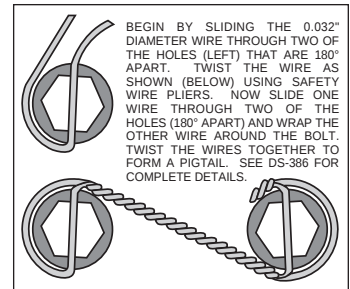

Figure 3. Safety Wire Diagram
- The hat/rotor assembly (5) has been pre-assembled at the factory using red Loctite® 271 on the mounting bolts and torqued to specification. For an added measure of security, the bolts may be safety wired using standard 0.032 inch diameter stainless steel safety wire as shown in Figure 3. Please refer to Wilwood's data sheet DS-386 (available at www.wilwood.com/Pdf/DataSheets/ds386.pdf) for complete safety wire installation instructions.